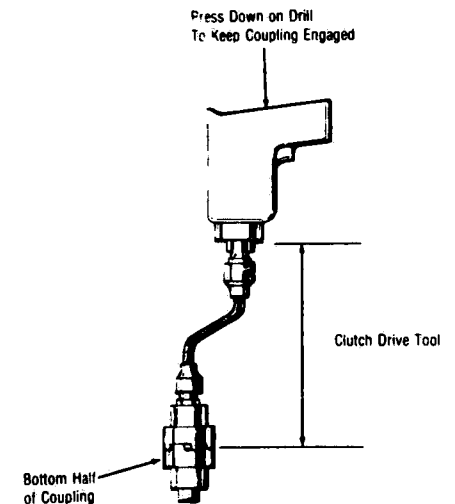

Figure 7-9. DRIVE TOOL POSITIONED TO DRIVE CLUTCH.
5. Refer to Figure 7-9 for positioning the drive tool. Join the coupling halves as shown. Drill will drive clutch with gears acting as speed multiplier.